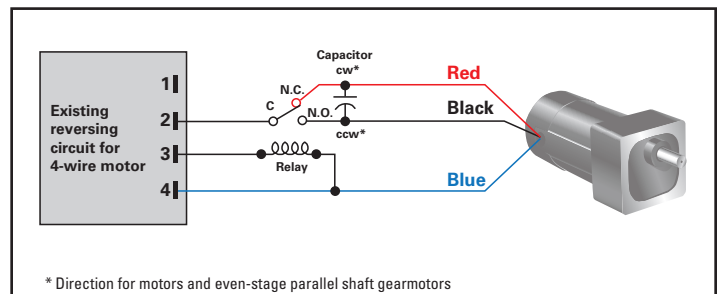

Figure 2: Three-wire reversing motor/gearmotor connection into an existing 4-wire set-up.
3. Connect the 3-wire-reversible motor, relay and new run capacitor as shown in Figure 2 below.